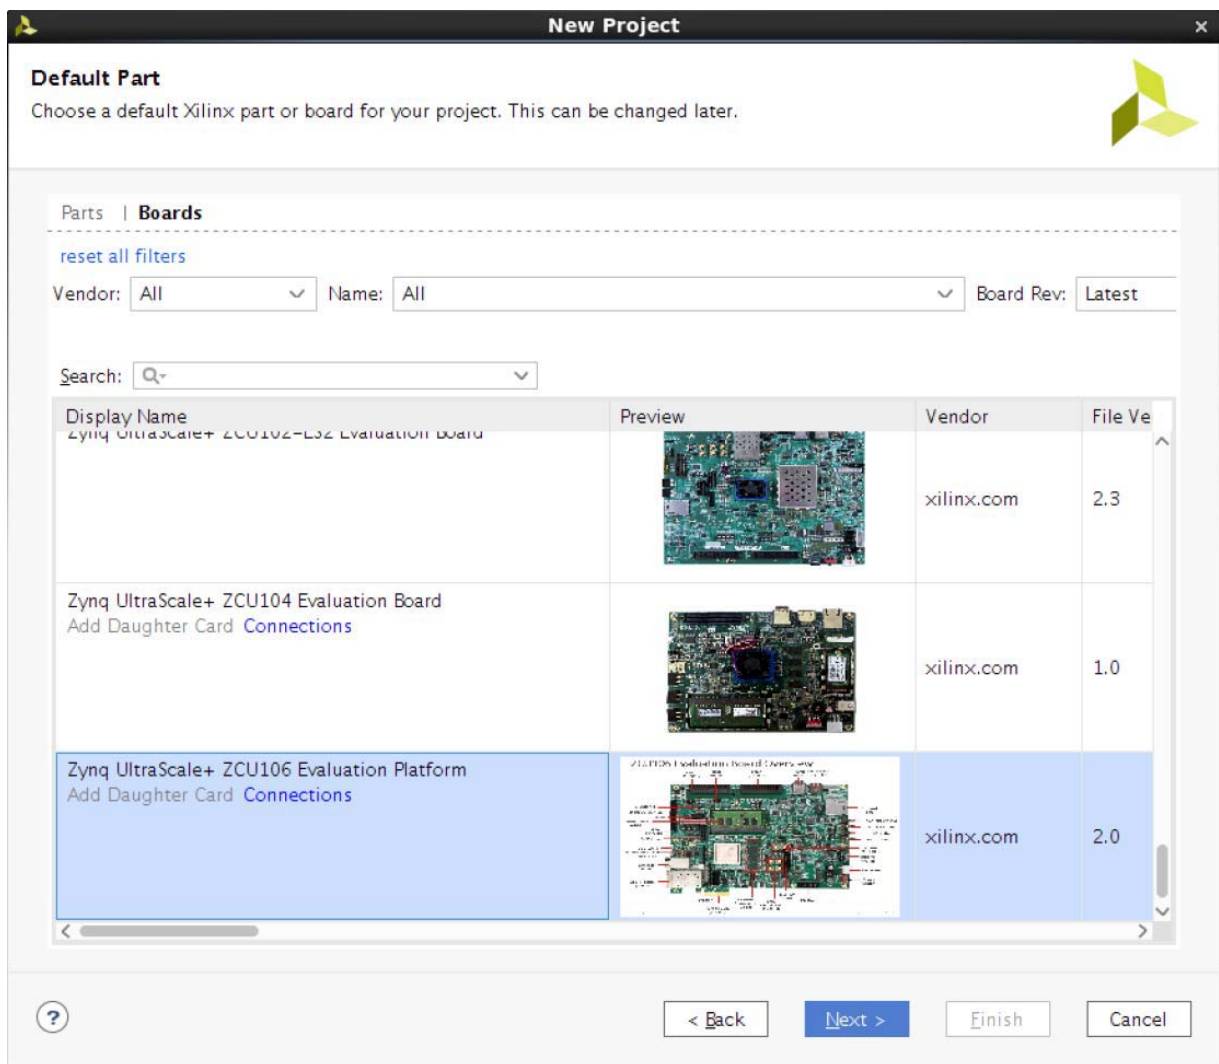

Figure 5-25: Select the ZCU106 Board
3. Select the **ZCU106** Board as shown in Figure 5-25.